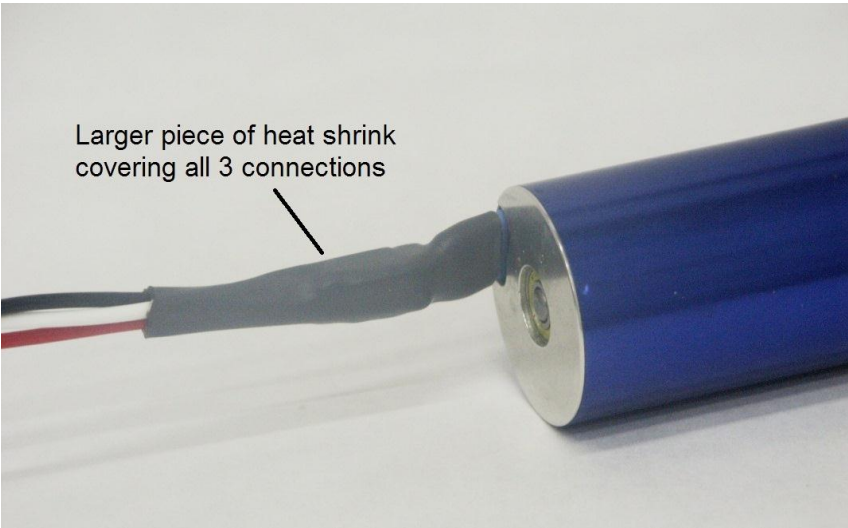

Figure 2-10
- After the connections are covered, apply the larger piece of heat shrink to cover the three connections as a group. While the heat shrink is still hot, coil the bundle into a “pigtail” behind the motor (Figure 2-10) to make room for the assembly within the inner housing when re-assembled.